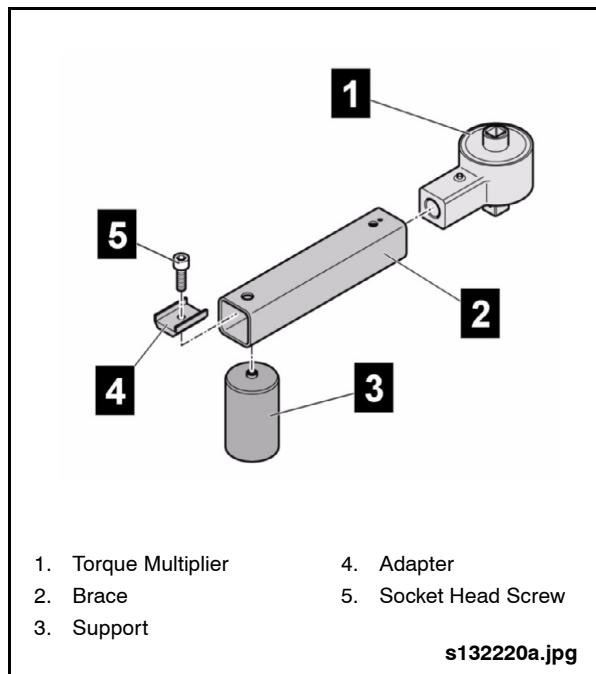

Fig. 2-57: Special Tool Assembly
- a. Attach Support (Item 86 from Special Tools List) with Socket Head Screw (Item 66 from Special Tools List) and Adapter (Item 104 from Special Tools List) to the Brace (Item 57 from Special Tools List). See "Fig. 2-57: Special Tool Assembly" on page 49.